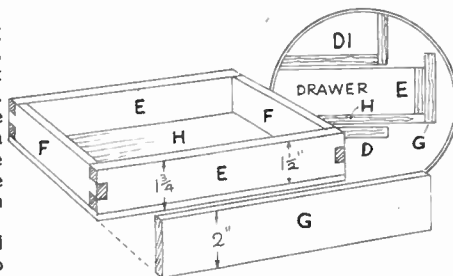

Fig. 2—Construction and detail of drawer
The drawer is simple in construction, as Fig. 2 shows. There is a shallow frame made from four rails 1½ ins. wide, the two side rails (F) measuring 9 ins. long and two rails (E) 11½ ins. long. All are lock-jointed at the angles, see Fig. 2. A floor piece will be glued to the frame, and the edges round afterwards glass-papered and made to fit neatly into its opening in the box. To the front rail (E) of the drawer is fixed an outer front (G), measuring 12 ins. by 2 ins. by ½ in.
In fixing on the front (G) see that its lowermost edge comes flush with the lower edge of the floor. The dotted line shows this in the large circled diagram in Fig. 2.